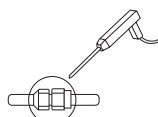

Fig. 7-2
7.4 Leakage checking of refrigerant at the coupling by gas leak detector or soapsuds, as shown in Fig. 7-2.